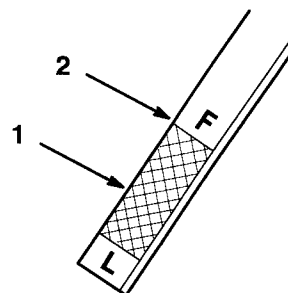

Figure 42
5. Slide the dipstick fully into the filler tube (Fig. 5). Pull the dipstick out and look at the metal end. When the transaxle is cold, oil should be in the operating range, below the FULL line on the dipstick (Fig. 42).